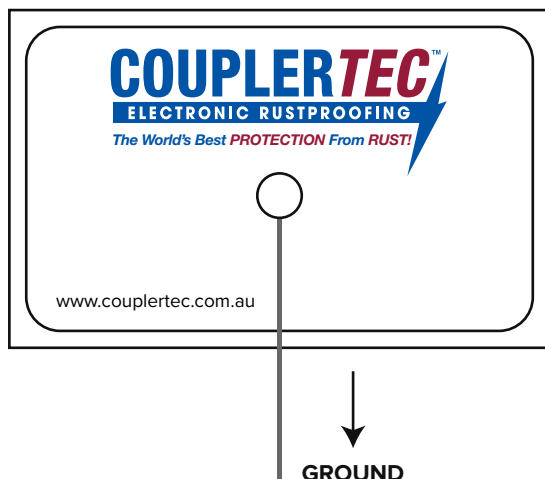

FIGURE: 2
- Once the site is clean and dry. Peel off the backing paper from the back of the Capacitive Coupler ready to secure (don't touch the adhesive surface). The Capacitive Coupler must be affixed in an upright position with the wire facing downwards (refer figure 2), firmly press the Capacitive Coupler onto the prepared site making sure that there are no bubbles under the Capacitive Coupler. The Capacitive Coupler must be 100% in contact with the painted metal surface.